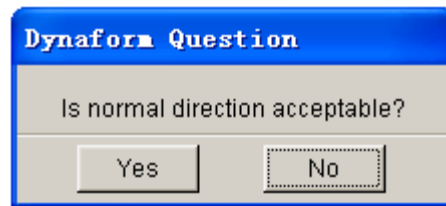

Figure 5.5.3 DYNAFORM Question dialog box
- An eta/DYNAFORM QUESTION dialog box as illustrated in Figure 5.5.3 is displayed.